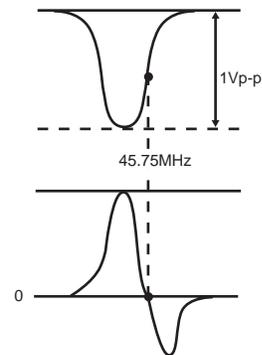

Fig. 3-2
1. Connect an oscilloscope between JL72 (VIDEO) and JL71 (A.GND) and apply an external voltage (MGC) to JL26 to obtain a waveform as shown in Fig. 3-2 (make sure not to clip the extremely short portion). Adjust T202 so that the position at 45.75 MHz is the lowest point.